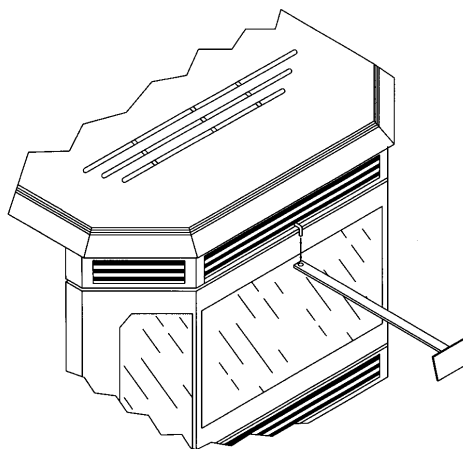

FIGURE 14
- b. Clean heat exchanger tubes (see "**CLEANING**" and Figure 14).
- Heat Exchange Tubes** – Your Breckwell stove is designed with a built-in heat exchange tube cleaner. This should be used every two or three days to remove accumulated ash on the tubes, which reduces the efficiency of your unit. Insert the handle end (with hole) of the cleaning tool onto the cleaning rod (refer to figure 14). The cleaner rod is located in the grill above the stove door. Move the cleaner rod back and forth several times to clean the heat exchanger tubes. When finished be sure to leave tube cleaner at the rear of the stove.